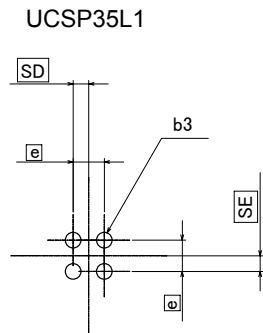

Figure 19. Magnet Dimensions and Flux Density Measuring Point
Of the two representative varieties of permanent magnet, neodymium generally offers greater magnetic power per volume than ferrite, thereby enabling the highest degree of miniaturization, thus, neodymium is best suited for small equipment applications. Figure 18 shows the relation between the size (volume) of a neodymium magnet and magnetic flux density. The graph plots the correlation between the distance (L) from three versions of a 4mm X 4mm cross-section neodymium magnet (1mm, 2mm, and 3mm thick) and magnetic flux density. Figure 19 shows Hall IC detection distance – a good guide for determining the proper size and detection distance of the magnet. Based on the BU52058GWZ operating point max 5.0 mT, the minimum detection distance for the 1mm, 2mm and 3mm magnets would be 7.6mm, 9.2mm, and 10.4mm, respectively. To increase the magnet's detection distance, either increases its thickness or sectional area.